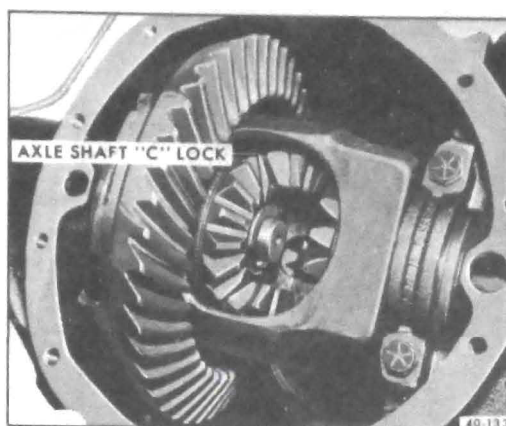

Figure 40-180 - Axle Shaft 'C' Locks
5. Push axle shaft(s) inward to permit removal of "C" locks then remove axle shaft(s). See Figure 40-180.